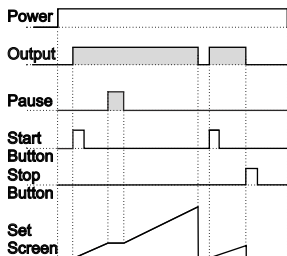

Figure 1.3
1.2.1 If Upcount $\boxed{INC}$ = 0 and $\boxed{OUT}$ is $\boxed{ON}$ the control diagram is shown in Figure 1.3